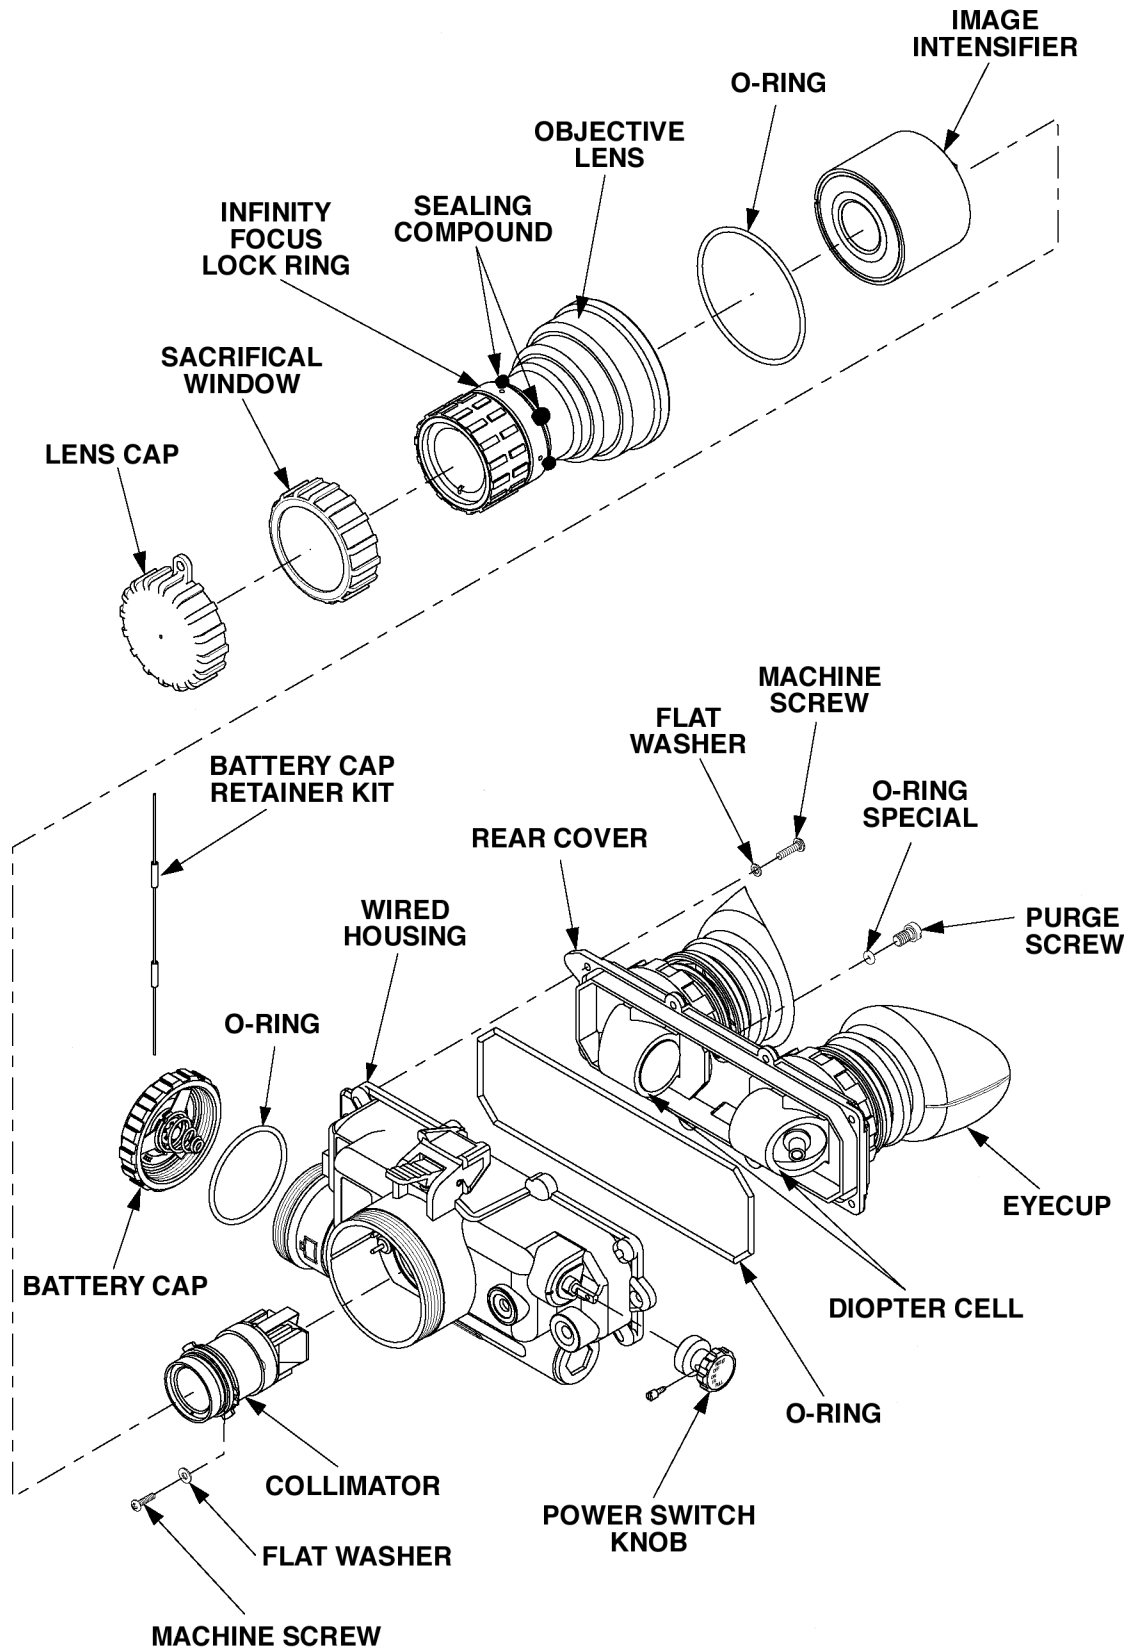

Figure 3-9. Goggles Assembly/Disassembly.
(1) With objective lens (Figure 3-9) facing technician, rotate objective lens counterclockwise and remove lens from threaded part of wired housing. Be careful not to disturb location of image intensifier in wired housing.
(2) Remove O-ring from inside large end of objective lens.
(1) Thoroughly clean all optical surfaces with cotton-tipped applicators and isopropyl alcohol or compressed air. Mating surfaces should be cleaned with clean lint-free cloths and isopropyl alcohol before assembly. If damaged, replace with new objective lens (Figure 3-9).
(2) Apply a light coating of lubricant on O-ring before inserting into groove in objective lens.
- (1) Ensure that objective lens has been installed (para 3-12) and that the goggles have been purged (para 3-18).
- (2) Perform Initial Setup, Procedure, and low light resolution test (para 3-9).
- (3) Focus each diopter adjustment for best focus in each eyepiece.
- (4) With the objective lens facing away from the operator, rotate objective lens fully clockwise. Using a pair of slip-joint pliers (Appendix B, Item 8), loosen infinity focus lock ring (Figure 3-9) by turning lock ring fully counterclockwise. Using a cotton-tipped applicator moistened with isopropyl alcohol, clean away excess sealing compound. If necessary, rotate objective lens lock ring back and forth to help clean out the threads.
- (7) Apply one drop of sealing compound (Appendix D, Item 8) on threads at rear of infinity focus lock ring 90 degrees apart (Figure 3-9). Allow 10 minutes for sealing compound to cure.
(2) Clean both ends of image intensifier with cotton-tipped applicators and isopropyl alcohol.
(3) Slide the image intensifier (Figure 3-9), contacts end first, into the opening of the wired housing so the groove on the side of the image intensifier engages the ridge inside the opening of the wired housing.
(4) Install the objective lens.(para 3-12).
(5) Purge the goggles (para 3-18).
- (3) With front of wired housing (Figure 3-9) facing you, remove two screws and two washers which secure the collimator in the wired housing.
- (4) Carefully remove the collimator from the wired housing. If the collimator is not defective, store in a clean dry place.
(2) Remove the eyecups (Figure 3-9) from the eyepieces.
(3) Looking at the eyepiece end of the wired housing, turn the diopter focus rings fully counterclockwise so the eyepieces are extended all the way out.
(5) Insert the two attaching screws (Figure 3-9) and two washers. Screw them in all the way but do not tighten them, leave them loose enough to allow the collimator to move slightly.
The wired housing (Figure 3-9) can be removed and installed by removing the objective lens, the image intensifier and the collimator. Eight screws secure the rear cover to the back of the wired housing. The airtight seal will be broken and the final assembly must be purged to eliminate moisture within the goggles. The infinity focus stop may have to be adjusted when a new wired housing is installed (para 3-13).